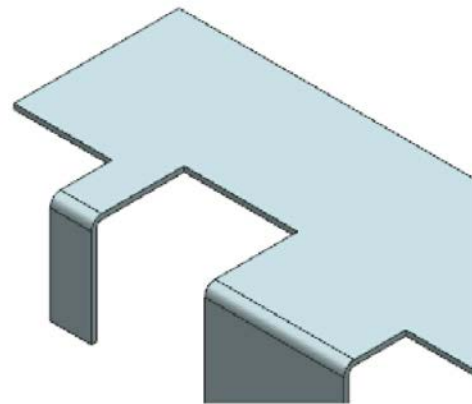

Figure 14-111 The fourth flange
10. Enter **20** mm in the **Length** edit box and choose the **Apply** button from the **Flange** dialog box; the fourth flange is created, as shown in Figure 14-111.